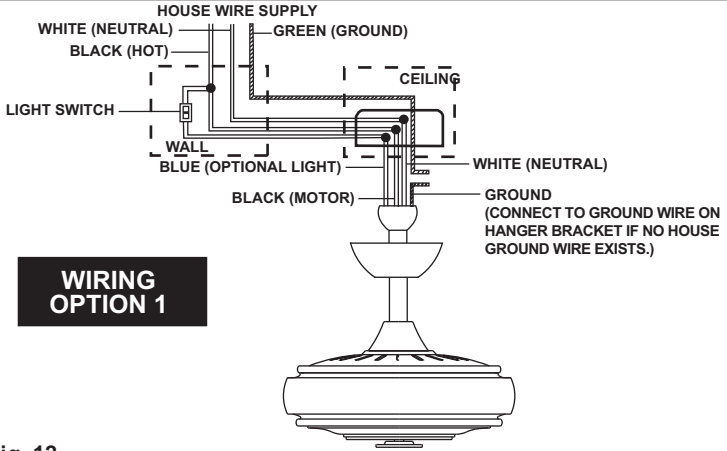

Fig. 12
Step 3. Figure 12 & 13 Illustrate the wiring connections using optional wall unit. (Available at your Minka-Aire® Retailer.)